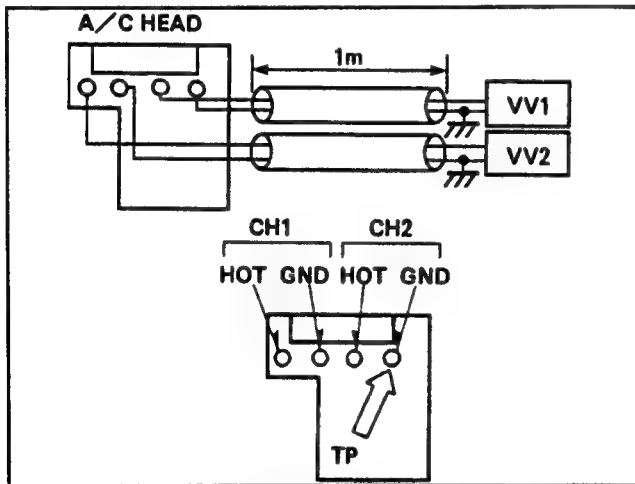

Figure E26
3. Connect the V.T.V.M. to the A/C head as shown in Figure E26.